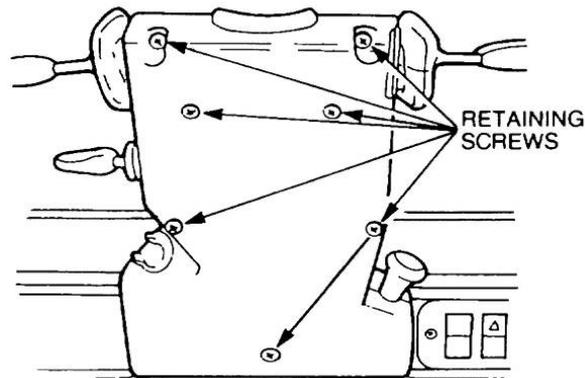

Figure 136 Removal of the Steering Column Shroud
- g. Remove the seven screws securing the shroud (Figure 136) and remove the shroud with the hand throttle attached.
- l. Install the steering column shroud and secure it with the seven screws (Figure 136).